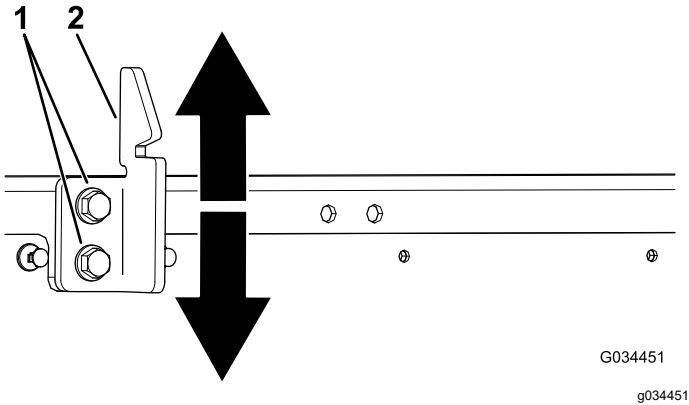

Figure 65
3. Loosen the 2 bolts on the bed-latch striker and move the striker up or down, depending on if the striker is too high or too low (Figure 65).
4. Tighten the 2 bolts on the bed-latch striker (Figure 65).